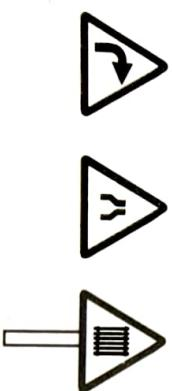

Fig. 3.15.2. Examples of cautionary signs.
6. Some of the examples for this type of signs are shown in Fig. 3.15.2, and includes right hand curve sign board, signs for narrow road, sign indicating railway track ahead, etc.